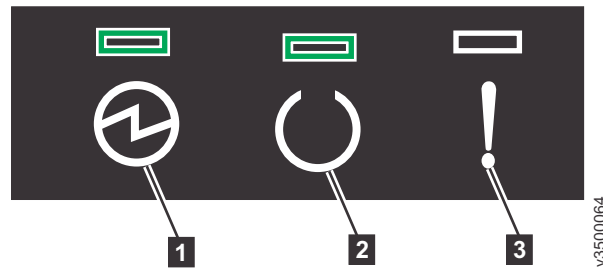

Figure 137. Node canister LEDs
5. From the rear of the control enclosure, check the LEDs on each node canister (see Figure 137).